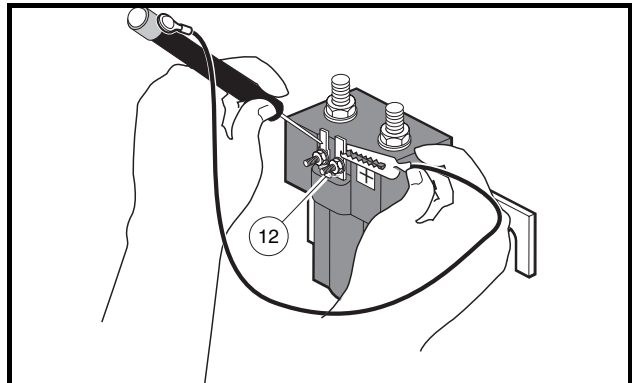

Figure 11-7 Diode Test – Probe Position Two
- 3.2. Reverse the positions of the probe and the alligator clip (**Figure 11-7, Page 11-15**). The tester should not illuminate. If any other reading is obtained, the diode must be replaced. If the diode is functioning correctly, proceed to step 5.